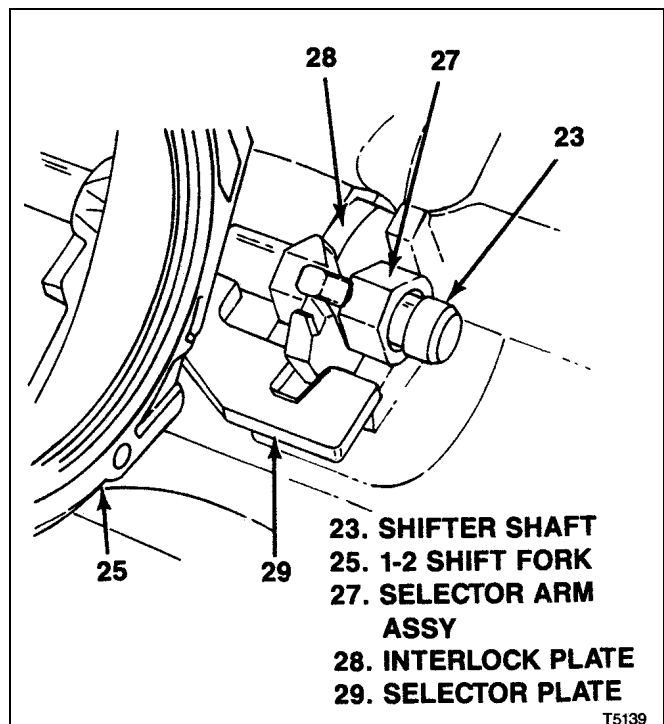

Figure 7-17. Installing T5 STD Selector Arm and Interlock Plate
- Align gap in interlock plate (28) with projection on selector arm assembly (27) and install these parts in semi-circular groove in case cover (32). Continue to push in shifter shaft (23) until it is just through selector arm assembly (see figure 7-17).